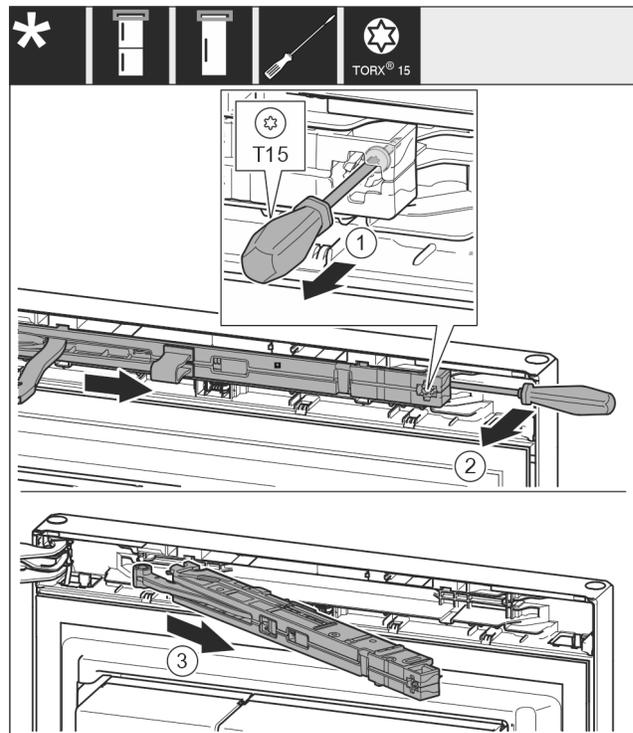

Fig. 10
- ▶ Loosen the soft stop unit screw with a T15 screwdriver approx. 14 mm (0.55 in). Fig. 10 (1)
- ▶ Insert a screwdriver behind the soft stop mechanism on the handle side and rotate the unit forwards. *Fig. 10 (2)*
- ▶ Pull out the soft stop unit. *Fig. 10 (3)*